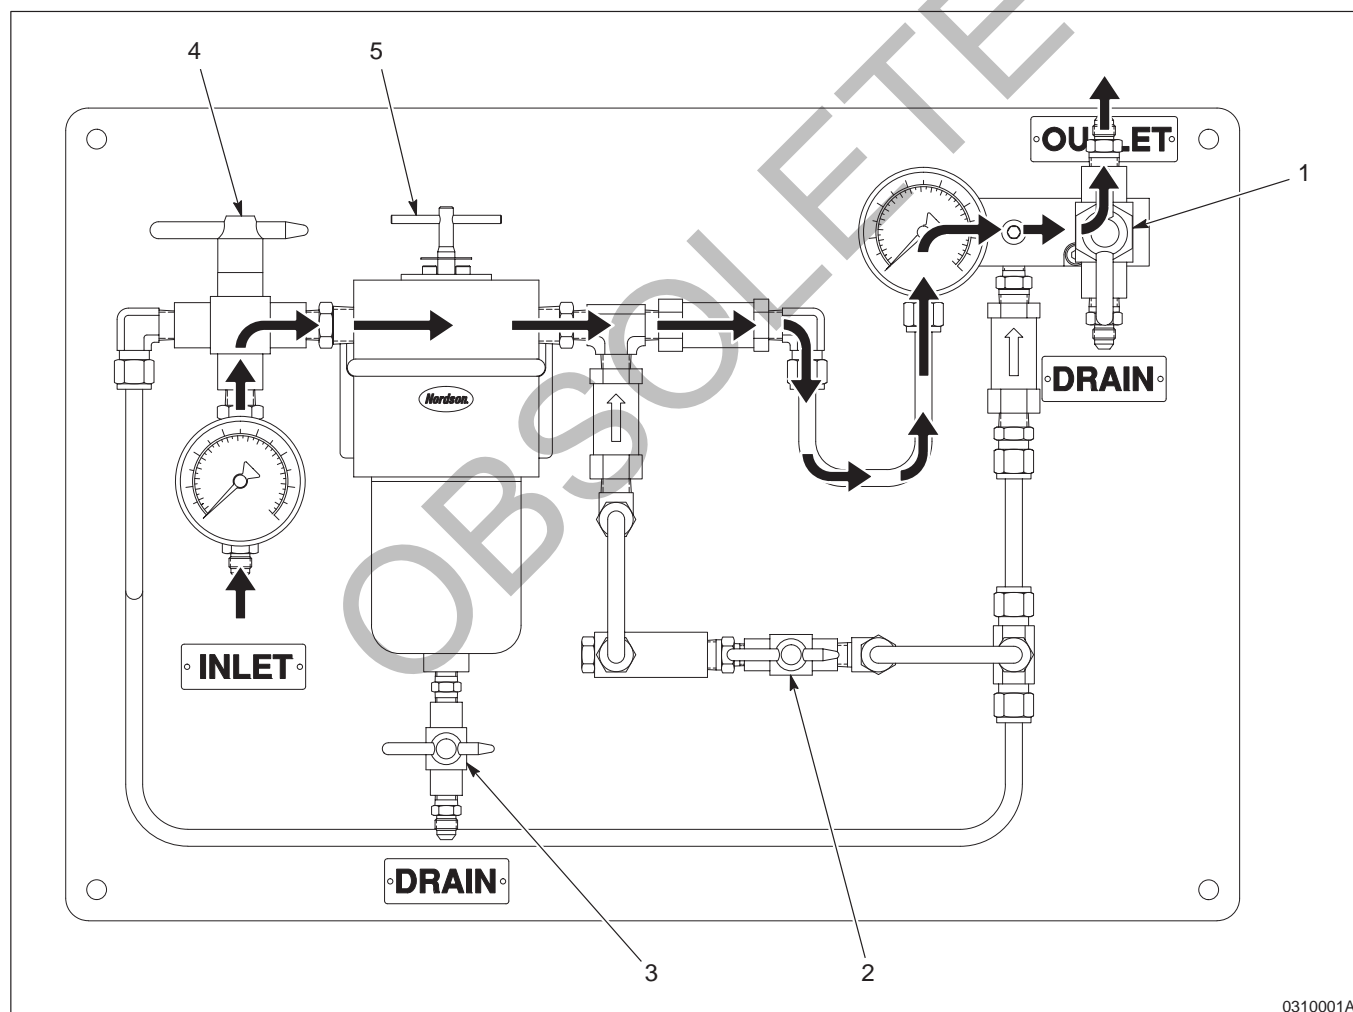

Fig. 1 Fluid flow and valve positions during normal operation
Refer to Table 1 and see Figure 1. Table 1 lists the various valve positions during normal operation of the EasyClean filter. Filtered fluid flows to the downstream components when the valves are in their normal positions. Figure 1 illustrates the path of fluid flow and valve positions during normal operation of the EasyClean filter assembly.
See Figure 1. When the filter is blinded (clogged) and the filter outlet pressure has dropped to an unacceptable level, scrape the filter screen. To do so, rotate the tee handle (5) on the top of the filter housing clockwise for 3 or 4 revolutions. The contaminants on the filter screen will settle at the bottom of the filter bowl.